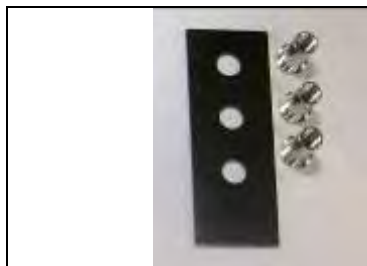

Figure 64 - Pop-nut Test Plate and Extra Pop-nuts (provided in kit)
- a. Before installing the Pop-nuts (P/N 8-98174-539-0), be sure the pressure regulator is adjusted between 72.5 and 87 psi (0.5-0.6MPa / 5-6bar) and, using the provided test pieces, test install one to three Pop-nuts into the test plate to be sure the Pop-nuts are seating properly. See Figures 64 and 65.